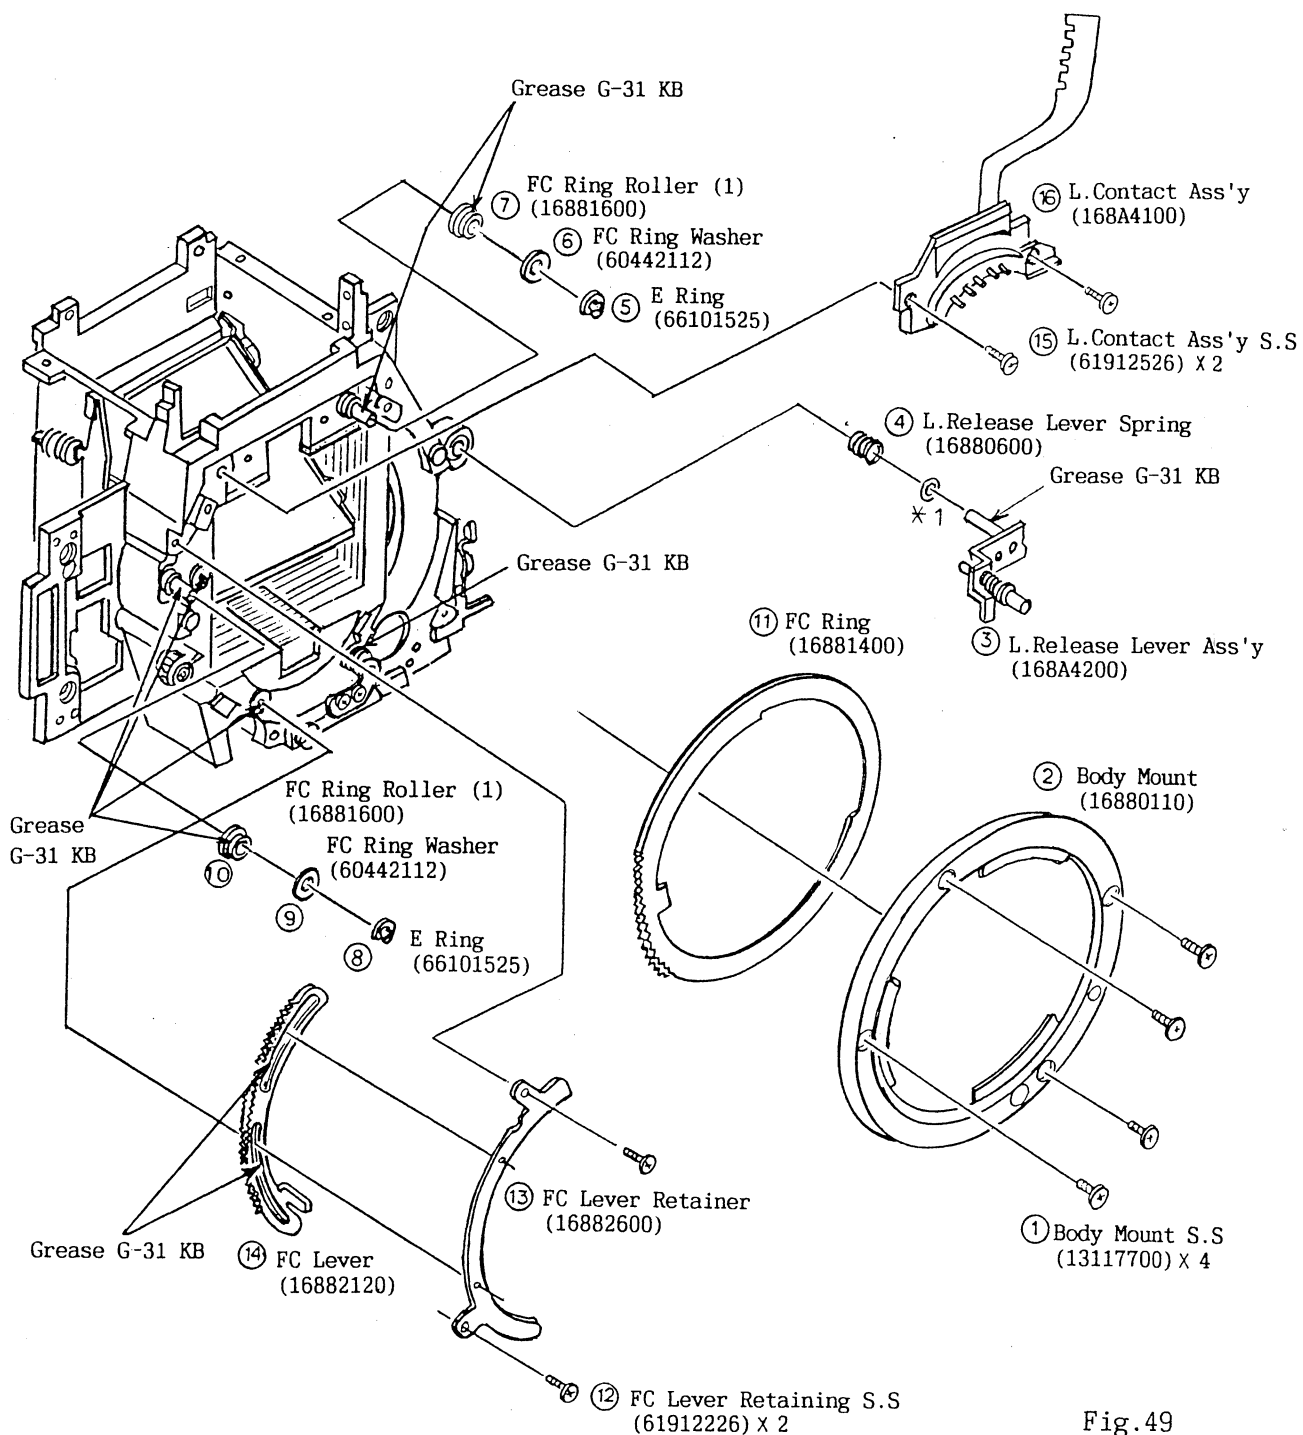

Fig.49
1) Remove the parts shown in Fig. 49 in the indicated order.